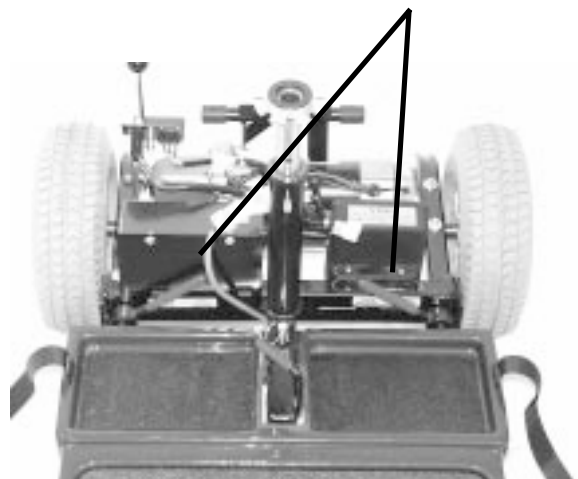

FIGURE 18. FRAME CAM LOCKING LEVERS
6. Place the cam locks in the locked position. See figure 18.